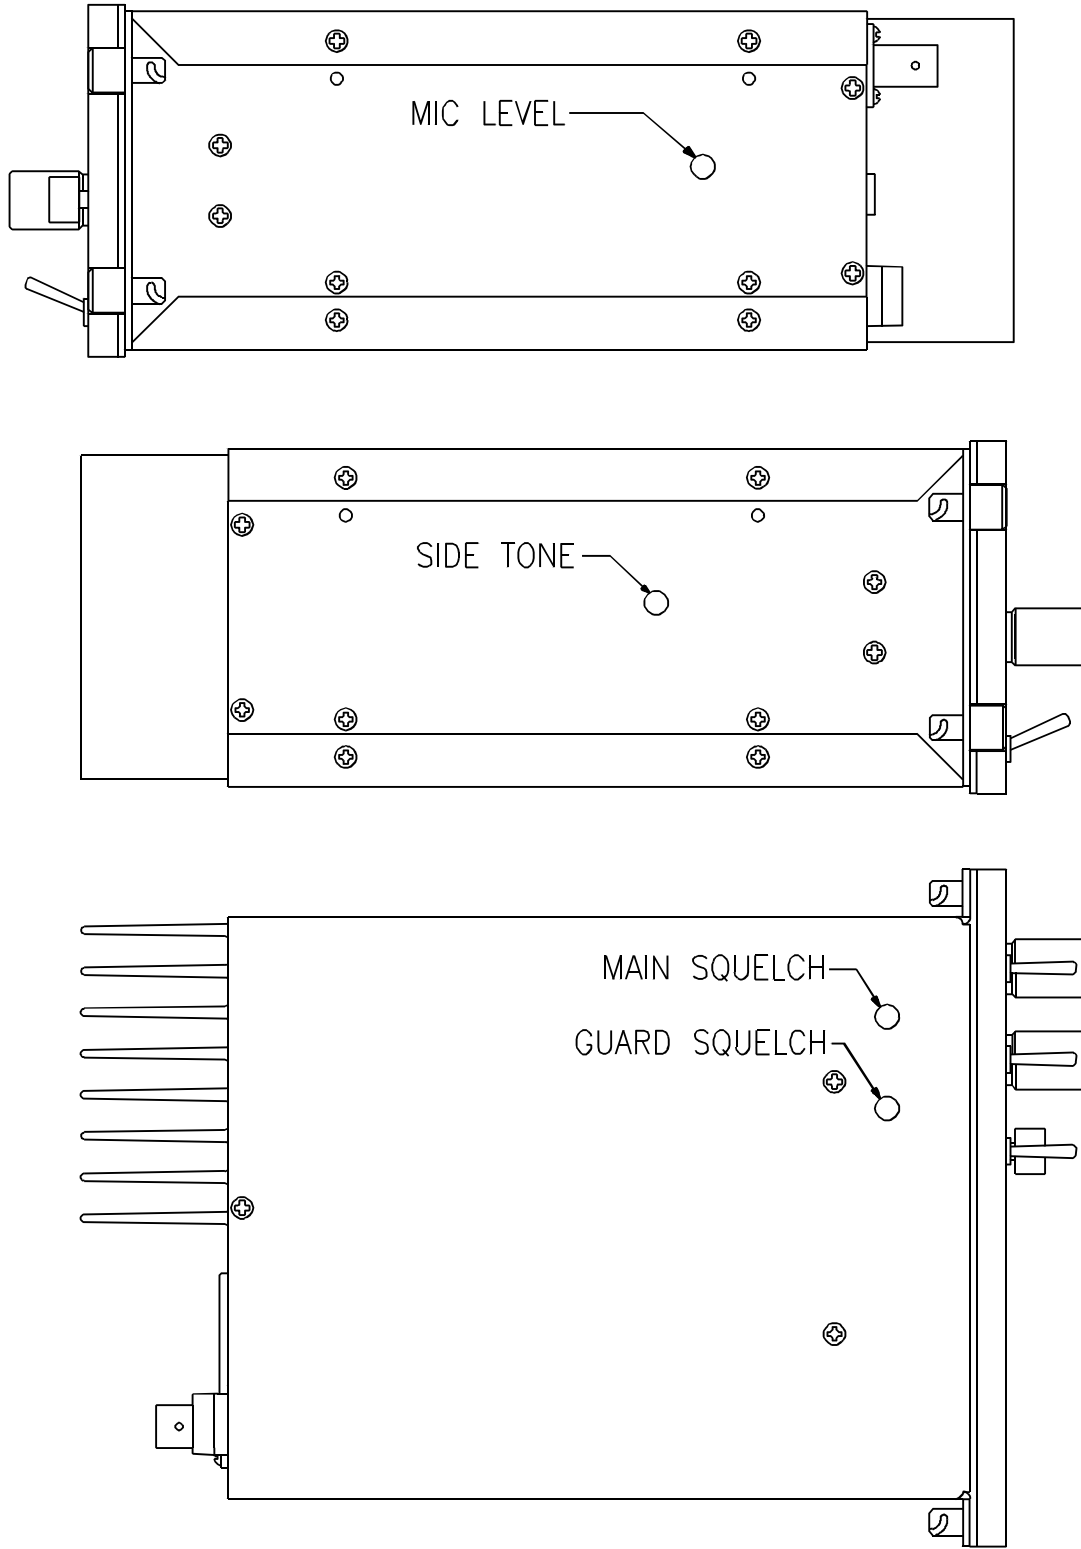

FIGURE 3-4 Microphone and Sidetone Level, Main and Guard Squelch Adjustment Access Holes
3. Adjust the microphone level potentiometer (R8 on MCU module) through the access hole located on the right side of the chassis (see Figure 3-4) to produce a 3.5 KHz deviation.
3. Adjust the sidetone level potentiometer (R37 on MCU module) through the access hole located on the left side of the chassis (see Figure 3-4) to produce a + 3.0 dBm (1.0 VRMS) 600 ohm audio output.
3. If not, re-adjust main receiver squelch potentiometer, R3 through the access hole located on the bottom of the transceiver chassis (see Figure 3-4).
4. Repeat the above procedure to adjust the guard receiver squelch setting using guard receiver squelch adjustment potentiometer, R4 (see Figure 3-4).